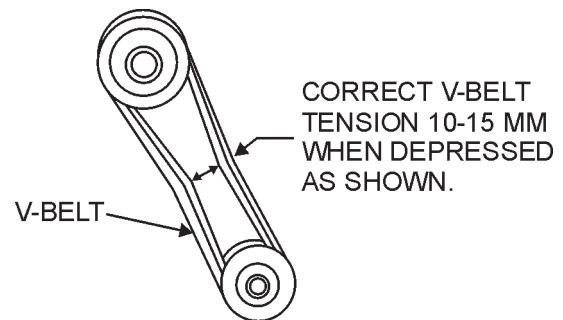

Figure 7. V-Belt Tension
2. The V-belt tension is proper if the V-belt bends 10 to 15 mm (Figure 7) when depressed with finger at midway between the clutch and vibrator pulley shafts.